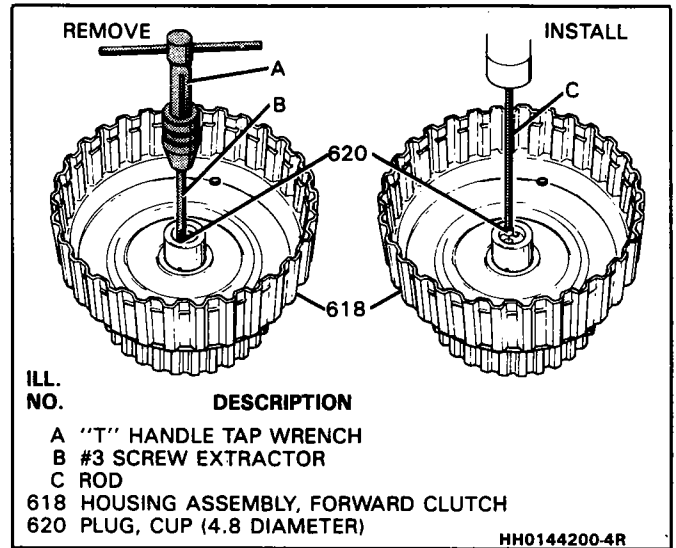

Figure 70 Removing and Installing Cup Plug
**Remove or Disconnect (Figure 70)**
1. Cup plug (620). Use #3 screw extractor.
**Install or Connect (Figure 70)**
1. Seat cup plug (620) to 1.0mm (.039") below shaft.